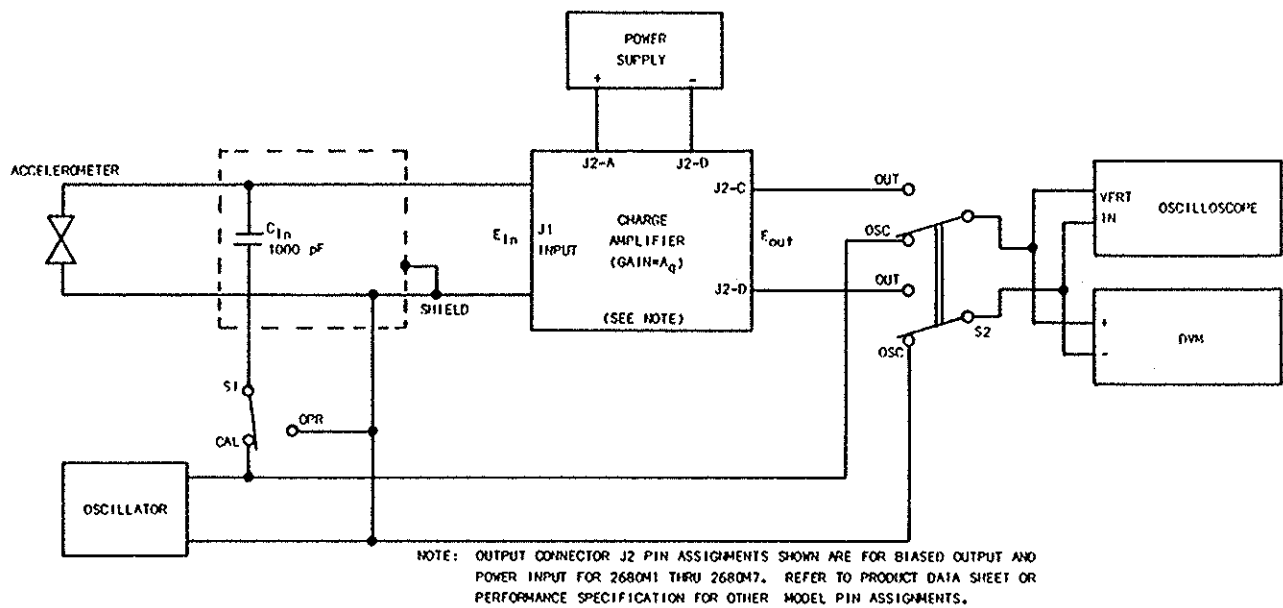

Figure 3-2. Alternate Charge Insertion Test Setup.
- a. Connect equipment as shown in Figure 3-2.